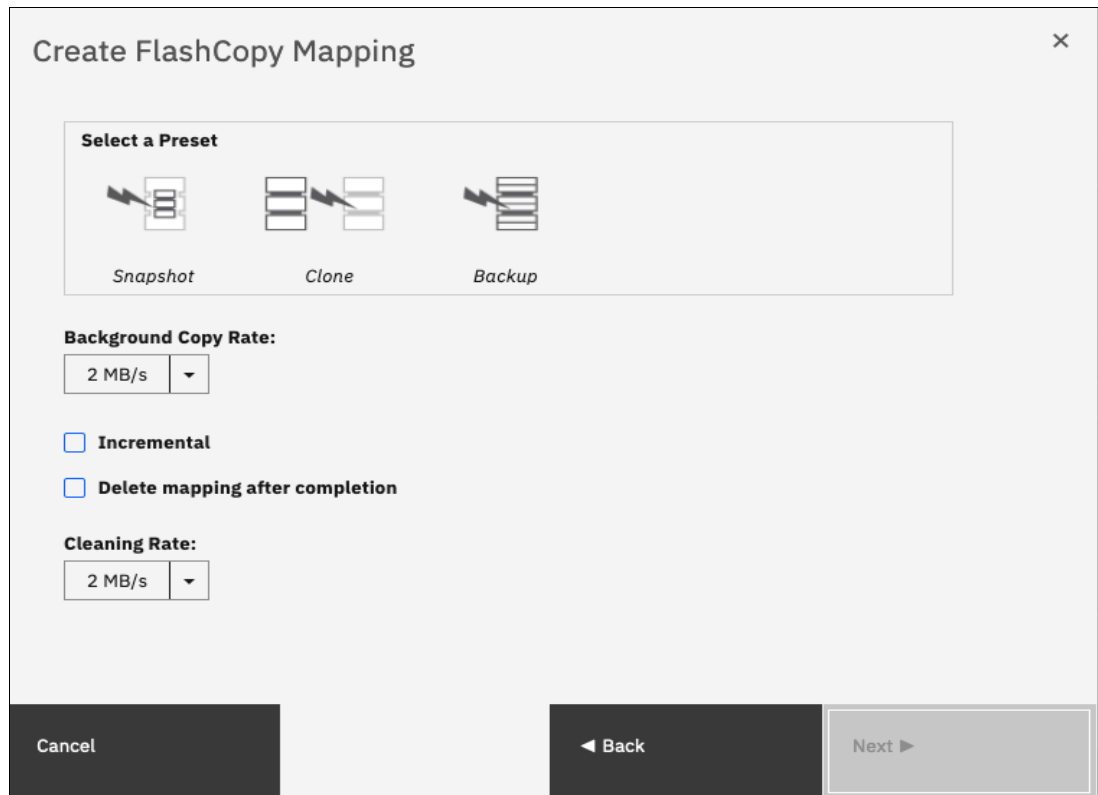

Figure 10-28 FlashCopy mapping preset selection
2. In the next window, select one FlashCopy preset. The GUI provides the following presets to simplify common FlashCopy operations, as shown in Figure 10-28 on page 688. For more information about the presets, see 10.4.1, “FlashCopy presets” on page 676: